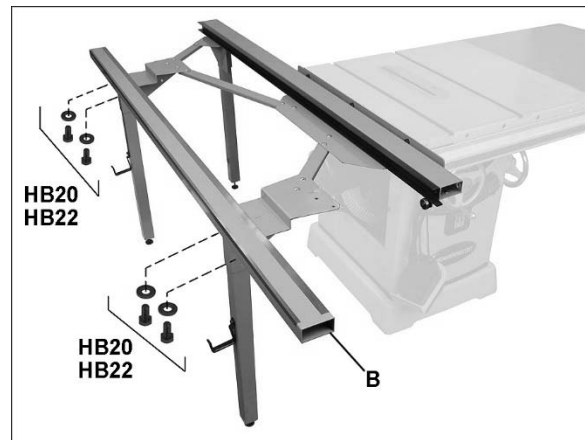

Figure 7-9
4. Use **HARDWARE BAG 2**: Install outer rail (B, Figure 7-9) to leg brackets. **NOTE:** The wider metal strip faces toward saw. Position rail so that screws are midway in the slots, and *finger tighten only.*